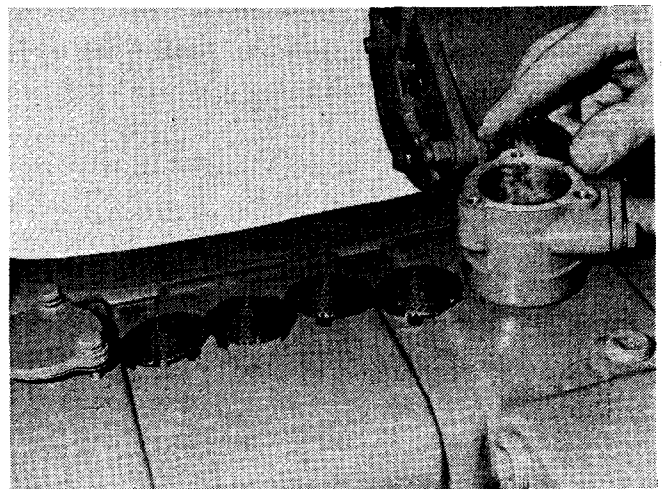

Fig. 2-24, (N21928). Changing crankcase breather element - screen type
2. Remove capscrews, washers, cover (1, Fig. 2-24) screens (3) and baffle (4) from the breather body (5).